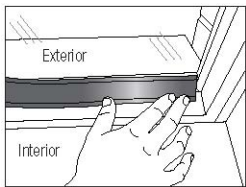

Figure 2
3. _Position 3M Profile against the window and frame in one corner by hand in the approximate finished position. (Figure 2)